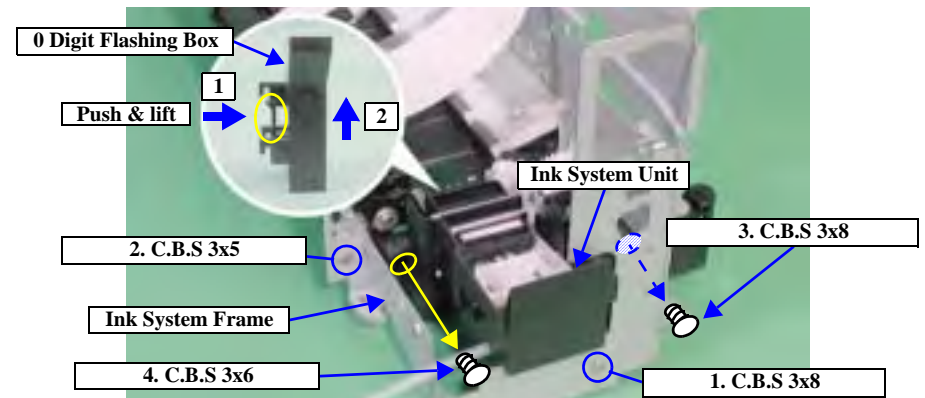

Figure 4-67. Ink System Unit Removal
6. Follow the order shown in Figure 4-67 to remove the 0 Digit Flashing Box from the Printer Mechanism.